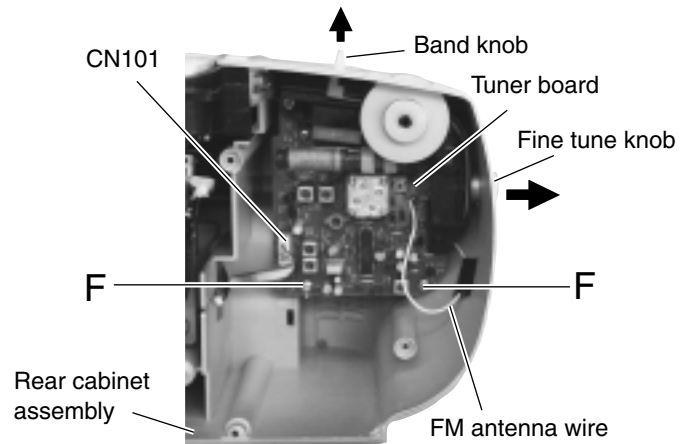

Fig.9
2. Pull out the band and fine tune knobs from the tuner board. (See Fig.9.)
3. Disconnect the wire from the connector CN101 on the tuner board. (See Fig.9.)
4. Remove the screw **E** and two screws **F** retaining the tuner board. (See Fig.9.)
(See Figs. 9 and 11.)
1. Disconnect the wire from the connector CN101 on the tuner board. (See Fig.9.)